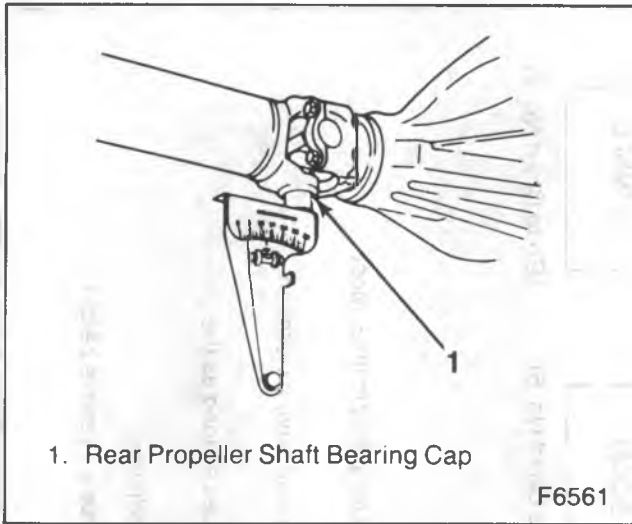

Figure 20—Measuring Rear U-Joint Working Angle
1. Place inclinometer J 23498 on rear propeller shaft bearing cap (figure 20). Center bubble in sight glass and record measurement. Bearing cap must be straight up and down and free of dirt or other foreign material to obtain an accurate measurement.